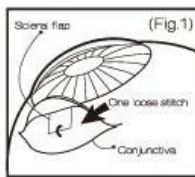
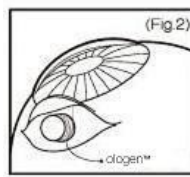

Fig. 1
Fig.2
4. In glaucoma surgery (after perform trabeculectomy, non-penetrating deep sclerotomy or drainage implantation) it is recommended suture the sclera flap loosely with one or two single stitches (figure 1) and then place ologenTM Collagen Matrix on the top of the sclera flap (figure 2). After this, suture the conjunctiva and reform anterior chamber.